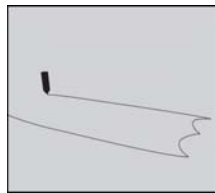

Figure 2:
2. Mark the area to receive the PreMark[®] using a chalk line, chalk or crayon. *See Figure 2.* When tracing always handle the material with care. The PreMark[®] may consist of a pattern of interconnected individual pieces of preformed thermoplastic material. If that is the case, do not lift an entire pattern segment (usually 2 ft. x 3 ft.) by holding on to a small individual piece of the pattern only. The material should be handled on the plastic sheet it is packed with until it is close to its final position. *See Figure 3.* Once the marking has been traced, or the area chalked, remove the marking from the pavement.